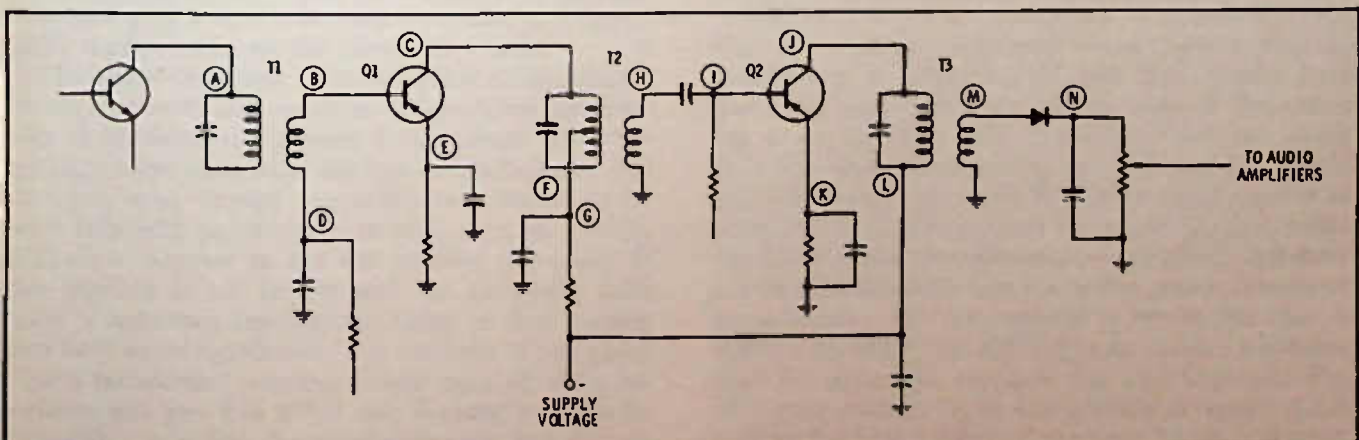

Fig. 14-20. Circuit for Questions 16 through 19.
6. Fig. 14-20 is an a-m radio i-f amplifier. Using an oscilloscope or signal tracer, you would expect to find the maximum amount of signal at point
17. In Fig. 14-20, using a signal tracer or scope, you should get an indication of more signal at
18. Assume that a radio using the circuit of Fig. 14-20 has weak output and you are using a signal tracer or scope to find the trouble. You check at C and H and you get a strong indication of signal; at J, you get signal, but it is considerably less than at either C or H; at I, you get about the same signal as at J. The trouble could be
19. In Fig. 14-20, you should get an indication of rf (i-f) with audio modulation at all the test points indicated except